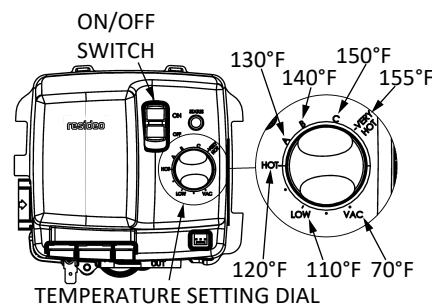

Figure 30 - Gas control valve.
- 3 Set the thermostat to the lowest setting by turning the knob to "VAC". See Figure 30.
- A. Set the thermostat to the lowest setting by turning the knob to "VAC". See Figure 30 - Gas control valve.
- A. Set the thermostat to the lowest setting by turning the knob to "VAC". See Figure 30.